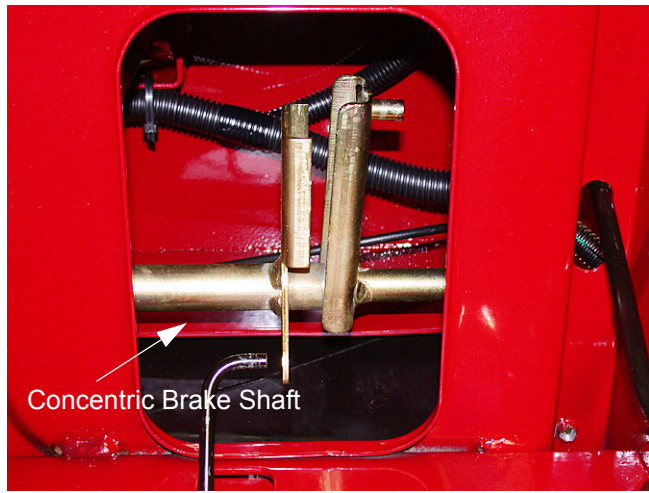

Figure 17.12
17.12. Slide the concentric brake cross shaft to the right allowing the brake rods to come out of the hole in the shaft. See Figure 17.12.